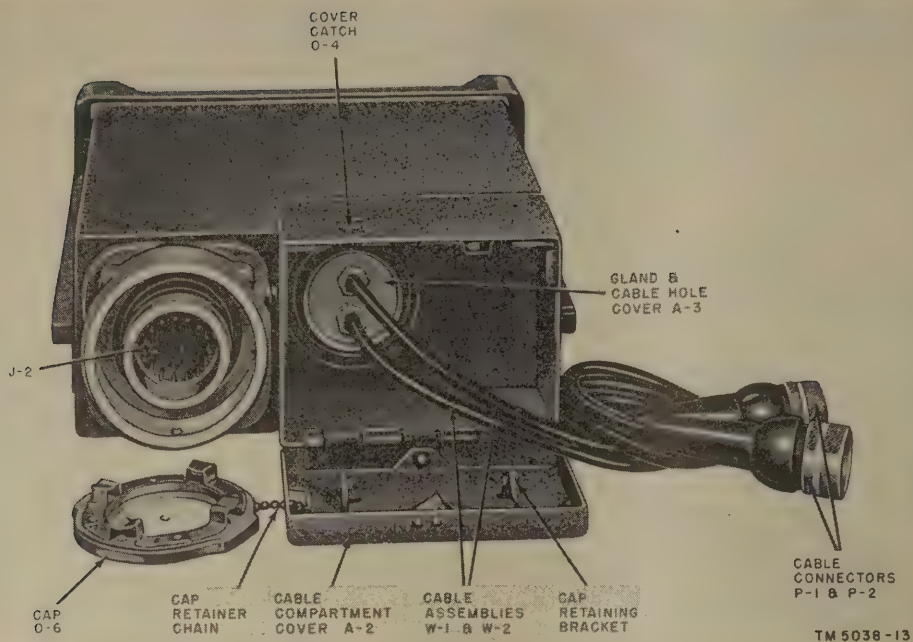

Figure 61. Local Control C-434/GRC, rear view.
Channel rails are fitted to the sides of the case to permit mounting the unit in the space provided for this purpose on the mounting. The connector at the rear of the control unit (fig. 61) plugs into a mating connector on the mounting, establishing a connection between the control unit and the radio sets installed on the mounting.
b. The local control also may be connected directly to the panel of the receiver-transmitter by means of plug-terminated cords at the rear of the unit (fig. 61).
receiver-transmitter by means of the Set 1 connecting cable located in the cable compartment of this unit (fig. 61). (When this latter method of connection is used, remote power control of the radio set is impossible.) Plugging the local control unit directly into the mounting is the most convenient method. This method should be used with Radio Sets AN/VRC-20, -21, and -22. Both methods are described below.
- (1) Remove the protective cover plate from the large plug (J-2) at the rear of the unit (fig. 61).
- (2) Open the cable compartment by pressing the snap catch at the rear of the unit. Snap the cover plate in place in the cap retaining brackets on the inside of the storage compartment. Close the cable compartment cover.
- (3) Slide the control unit by its runners into the mounting as far back as possible. Then lock the unit in place by means of the locking lever on the mounting.
pressing the snap catch at the rear of the unit (fig. 61). Extend the two cables that are located within this compartment.
b. Replace the protective cover on the plug at the rear of the local unit (fig. 61), and con-